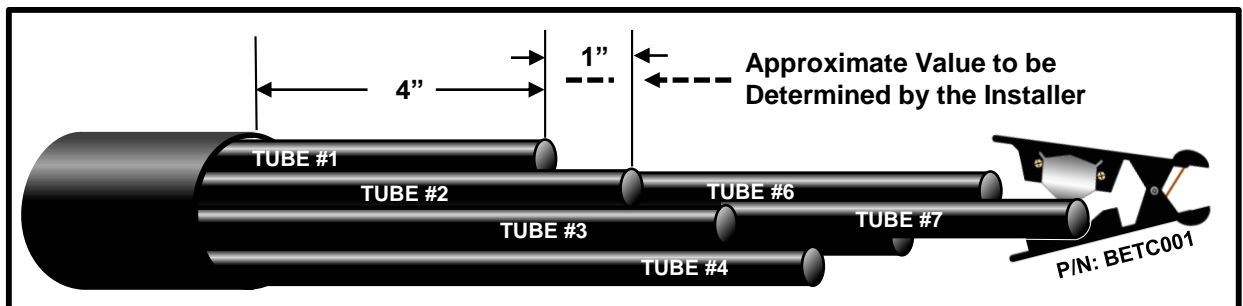

Figure 4
7.1 On the first Tube Cable, locate Tube #1. Measure approximately 4" in from stripped end of Tube Cable jacket and mark Tube #1. Use Tube Cutter (**SEL: BETC001**) to cut Tube #1 at this mark. **See Fig. 4.**
7.2 Locate Tube #2. Measure approximately 1" from the previous cut Tube (Tube #1) and mark Tube #2. Use Tubing Cutter (**SEL: BETC001**) to cut Tube #2 at this mark. **Refer to Fig. 4.**
7.4 On second Tube Cable, locate Tube #7. Measure approximately 4" in from stripped end of Tube Cable jacket and mark Tube #7. Use Tube Cutter (**SEL: BETC001**) to cut Tube #7 at this mark. **Refer to Fig. 4.**
7.5 Locate Tube #6. Measure approximately 1" from the previous cut Tube (Tube #7) and mark Tube #6. Use Tubing Cutter (**SEL: BETC001**) to cut Tube #6 at this mark. **Refer to Fig. 4.**